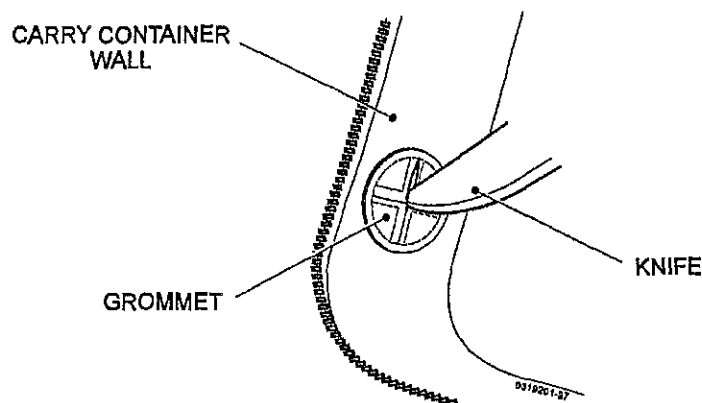

Fig 9 Carry container lower left hand grommet - opening up.
16.4.1 Using a knife, from inside the carry container insert the knife into each slit in turn in the lower left hand grommet (Fig 9) and carefully cut through the container wall to open up the grommet.